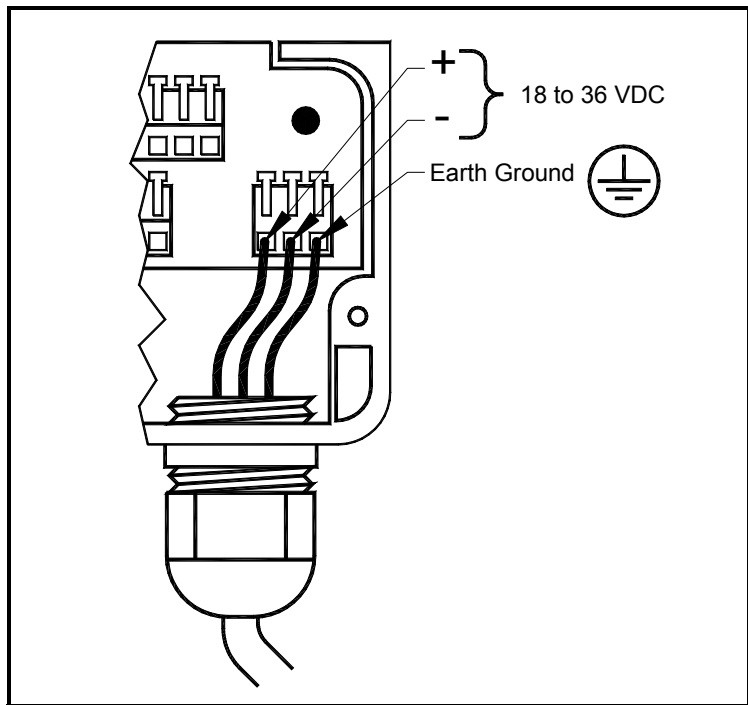

Figure 2-10: DC Power Wiring
3. Connect the wires to the J2 terminal block: Positive (+) to Pin 1, Negative (-) to Pin 2, and Earth Ground to Pin 3 as shown in Figure 2-10 below. Voltage ranges from 18 to 36VDC are supported.